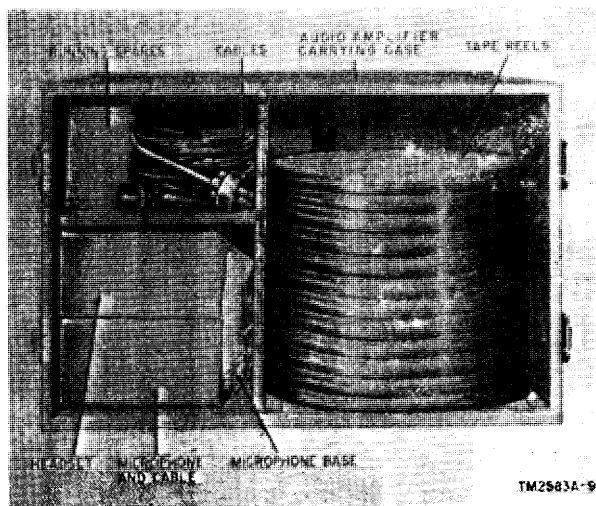

Figure 3. Amplifier Case CY-1830/TNH-2A, cover removed, rear view, showing location of stowed material.
f. *Amplifier Case CY-1830/TNH-2A* (fig. 3). This case is an aluminum-clad, plywood case containing Audio Frequency Amplifier AM-1249/U, Dynamic Microphone M-65/U, Electrical Headset H-118/U, Power Cable Assembly CX-1208/U, the interconnecting cables, a spare sound head assembly, running spares, 15 reels of tape, one empty reel, and spare cables are stored within the case.